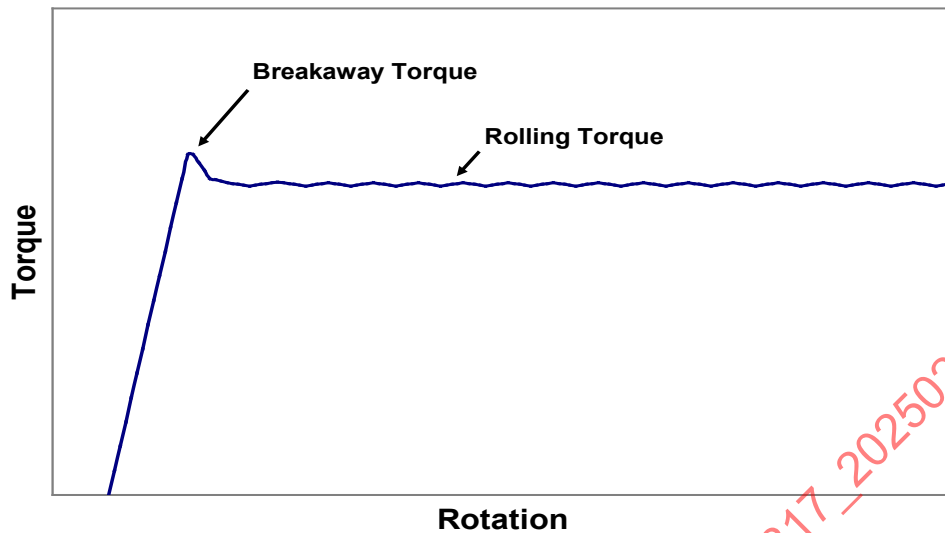

Figure 8 - Example of breakaway torque and rolling torque
- Record peak (breakaway torque) reading as well as average (rolling torque) reading. An example is shown in Figure 8.